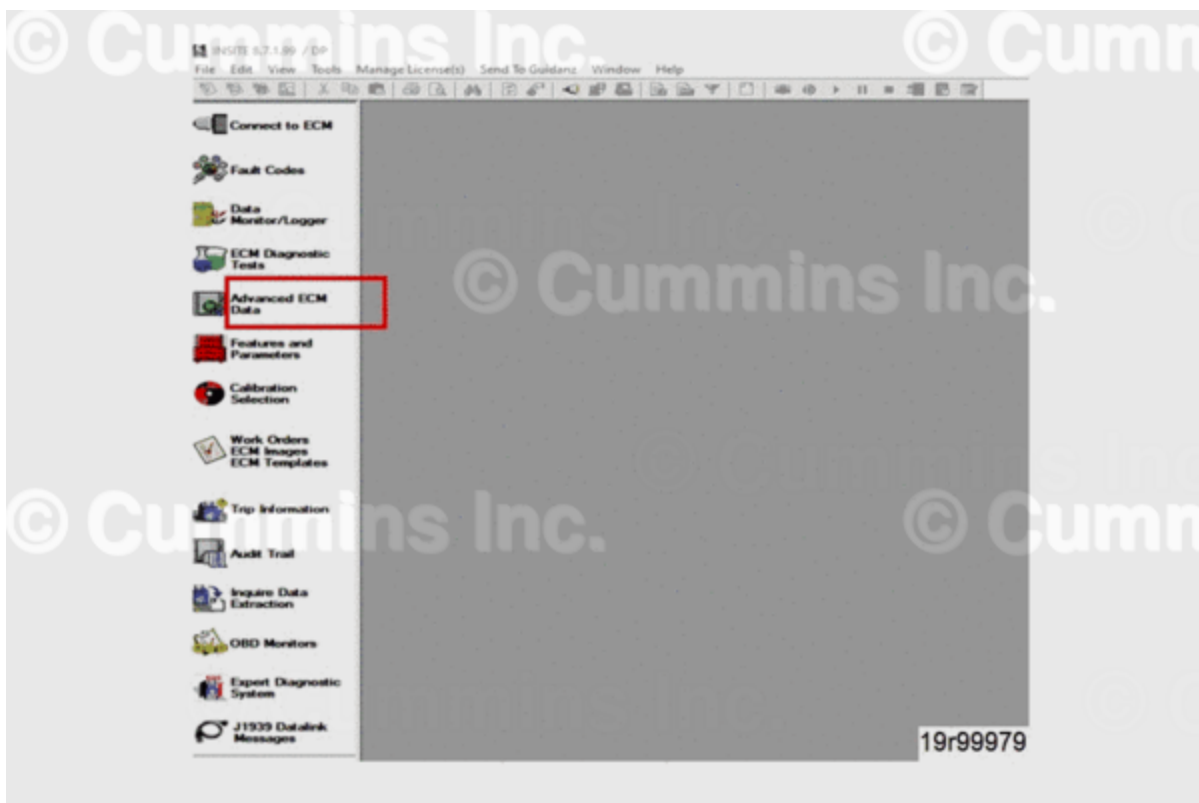

Figure 1, Advanced ECM Data.
- Select Advanced ECM Data. See Figure 1.